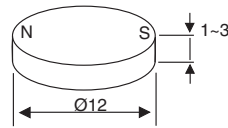

FIGURE 3
- (3) To improve the miss landing mentioned above, it's acceptable to stick the permanent magnets to CPT funnel (Figures 3 and 4).